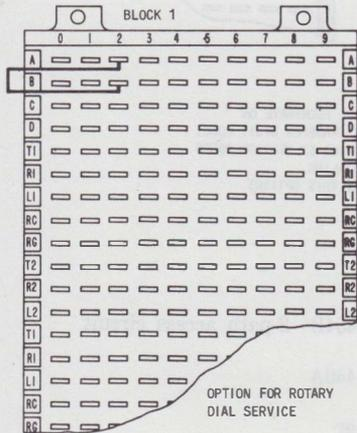

Fig. 12—Z Option
4.10 The Z option (Fig. 12) is required when rotary dial service is provided. It consists of a strap on block 1 of the 626A panel between row A, terminal 2, and row B, terminal 2. The Z option must be removed if the intercom is changed to TOUCH-TONE dialing.